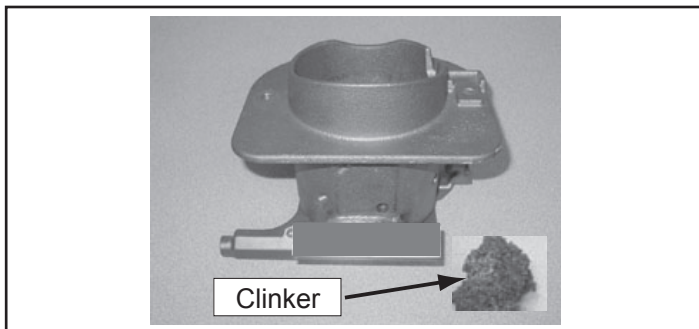

Figure 16.1 - Fire pot with large clinker
- It may be necessary to use your fire pot clean out tool to chip away material that has built up on the sides of the fire pot and to push out any clinkers. **Figure 16.1**